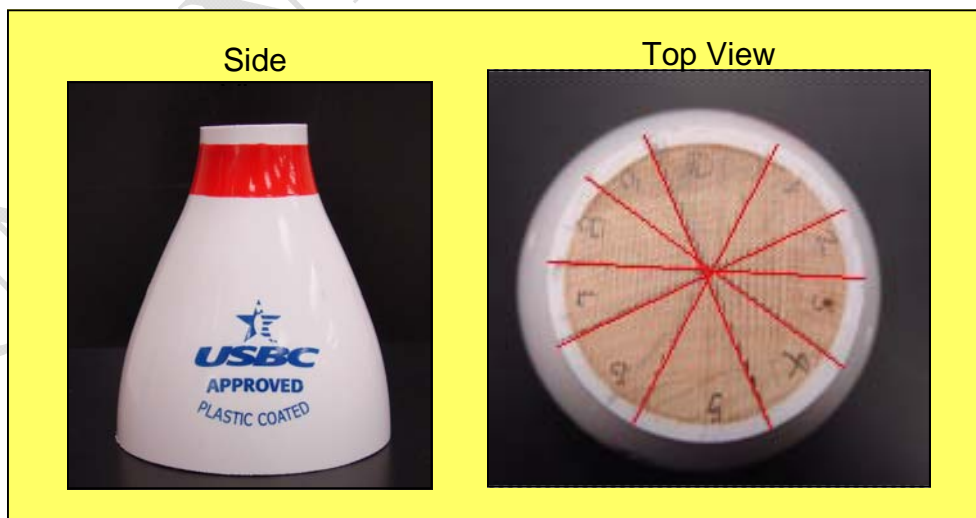

Figure 3 - Side and top view of the upper ball zone segment of the bowling pin. The top view shows the 10 divisions drawn on the segment for later analysis.
6. Set the upper ball zone segment of the bowling pin on a work surface and draw 10 “pie slices” on the top of the segment and number each section 1-10 with the pencil and straight edge as seen in figure 3.